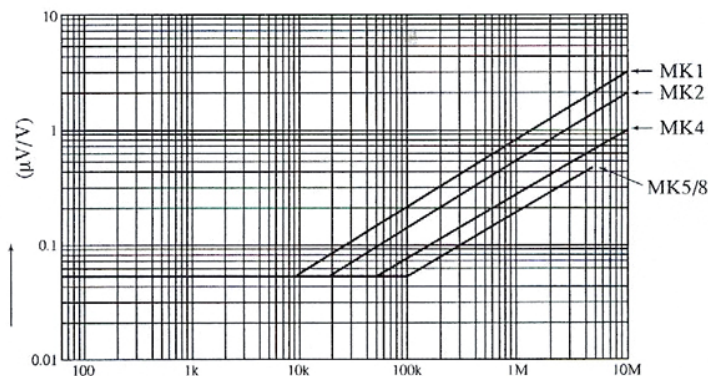

Figure 2.8 Axes: Y: Noise voltage ($\mu\text{V}/\text{V}$), X: resistance value
7. *Noise voltage*: the equivalent noise power voltage which describes a resistor and is provided in $\mu\text{V}/\text{V}$, in relation with the resistance named value. On Figure 2.8 you can see the change of the noise power voltage for different types of metal film resistors.